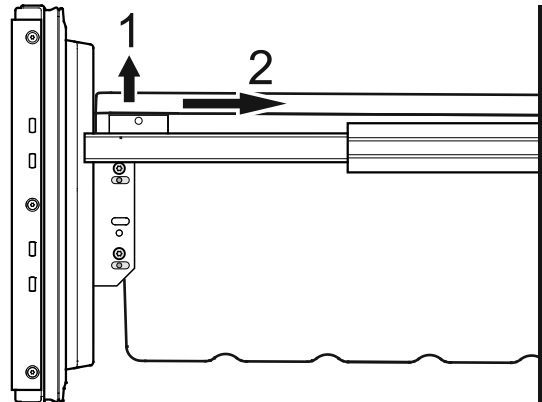
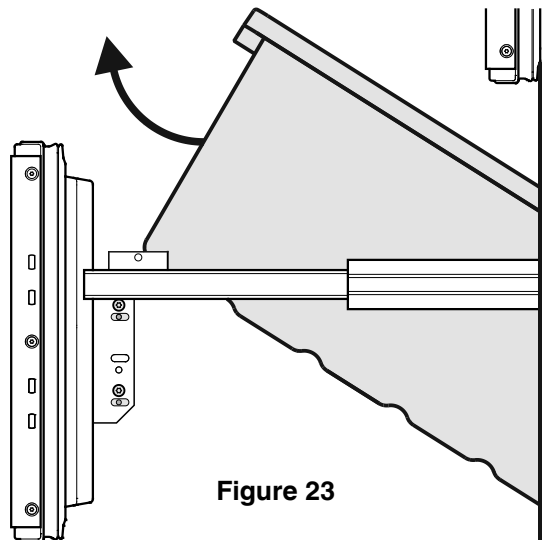

Figure 22
Figure 23
- Unlatch the container on the left and right corners by pulling upwards (1) - **Figure 22**.
- Slide the container backwards (2) - **Figure 22**.
- Tilt the container at an angle and remove - **Figure 23**.
- Remove the freezer drawer containers as shown in **Figure 22** and **Figure 23**.